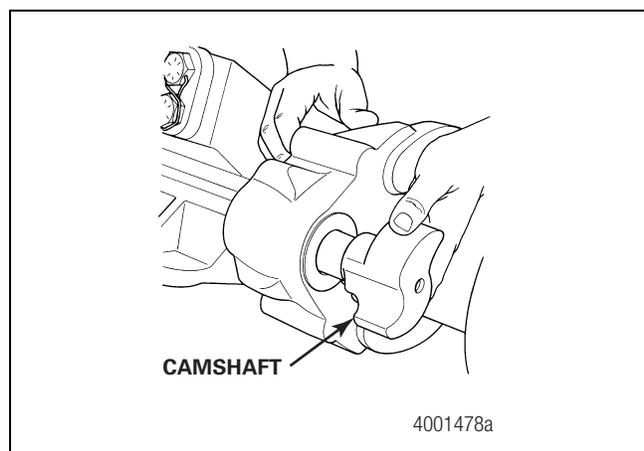

Figure 5.8
5. Remove the camshaft from the spider and bracket. Figure 5.8.